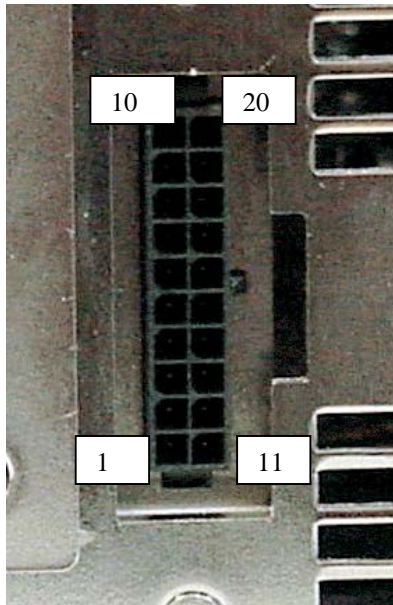

Figure 12 - Connector
- The pin out of the connector on the rack is a 180° different from a standard Molex connector, see Figure 12.